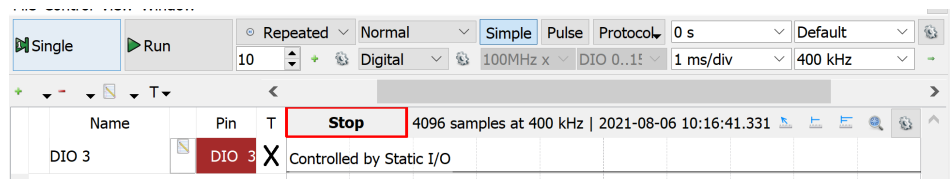

Figure 17: Logic Analyzer Controlled by Static I/O
**Exercise:** Open the Static I/O in a separate window so you are able to see the Static I/O and Logic Analyzer at the same time. Configure Digital I/O signal 3 is configured as a 0/1 Button. You will notice in the Logic Analyzer that the DIO 3 will say "controlled by Static I/O" see Figure 17. That is normal. Change the base on the Logic Analyzer to 6 s/div and change the mode to Screen see Figure 17. Notice how what the Run button now says Scan. This occurs when the base is greater than 100ms. Press Scan. Press the button and notice how as you press and release the button, the Logic Analyzer records the result. Press Stop. Close the Static I/O and open the Pattern Generator in a separate window so you are able to see the Pattern Generator and Logic Analyzer at the same time. On the Pattern Generator, configure Digital I/O signal 3 as a 1 kHz clock. Press Run on the Pattern Generator. On the Logic Analyzer,